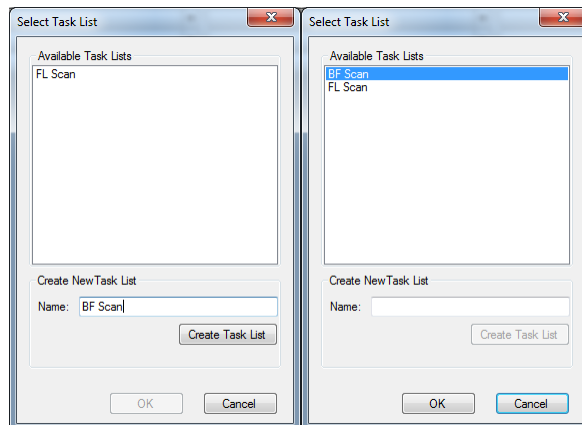

Figure 60. The **Select Task List** window where you can create a new task list (left) or select and then load a previously created task list (right).
5. Click the **Task List Select** button to create and name a task list. Type a Task List name in the **Name** box and click the **Create Task List** button. Click **OK** (see Figure 60).